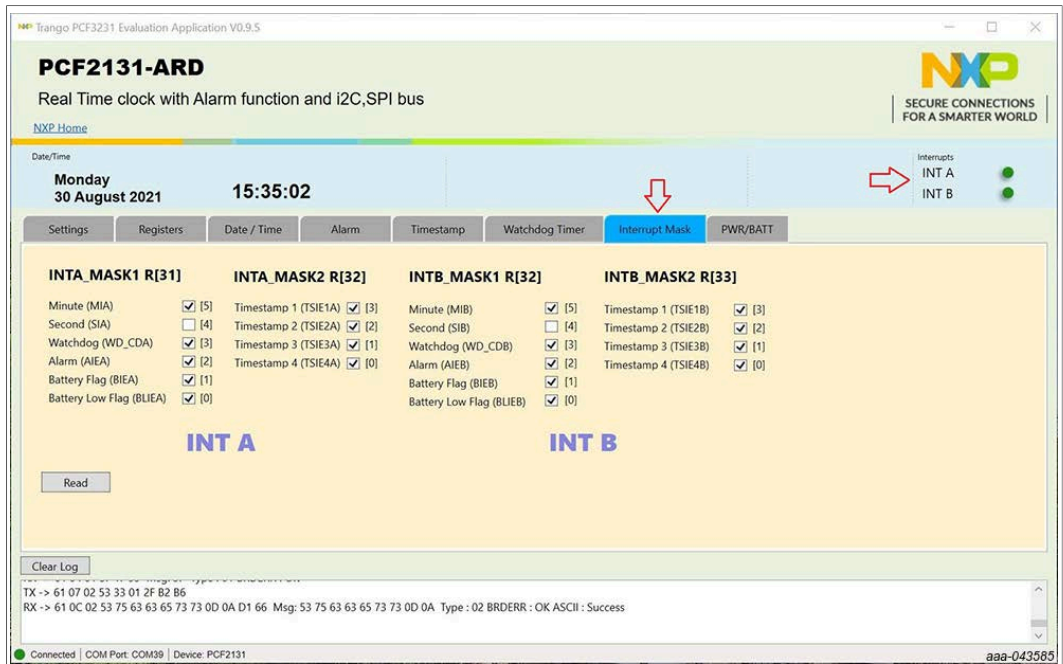

Figure 21. Graphical interface – “Interrupt Mask” tab activated
- **Interrupt Mask:** Figure 21. On the upper blue region, right side, two indicators are monitoring in real-time the state of the INTA / INTB interrupts of the DUT IC. Note that, checking all boxes means the interrupts are fully masked, INTA / INTB are not active.